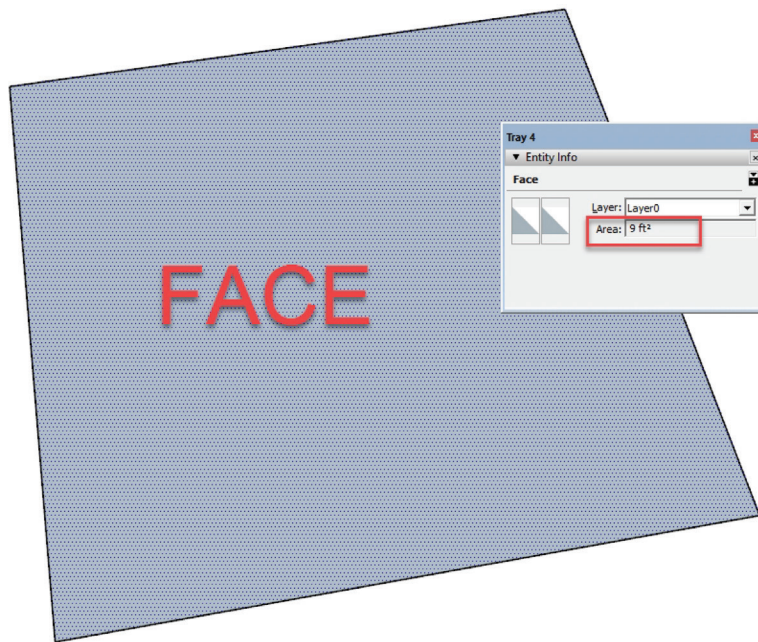

Figure 4.2 Face.
4. Left-click on this new face and open the Entity Info dialog box. The Entity Info box displays information about the current SketchUp selection – in this case the FACE you just selected. The Area shown in the box = 9 SF ($3' \times 3'$), as shown in Figure 4.2.